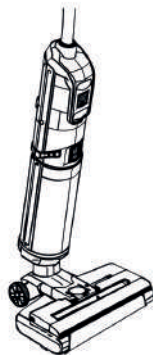

Fig. 13
2. Then press the rear part of the brush cover firmly until you hear a click, indicating that the cover has been properly installed (see Fig. 13).